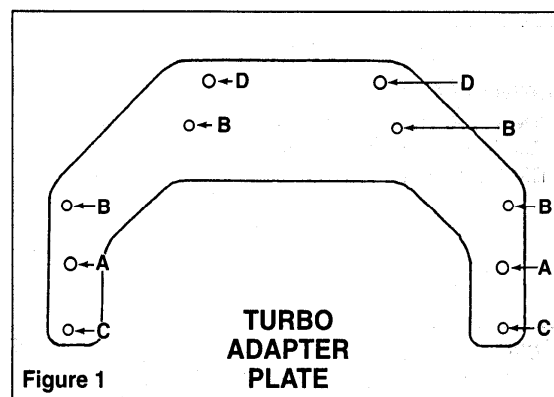

Figure 1
Step 1 Position the (E) adapter plate on the back of the engine with the attached nuts facing the engine. Align the "A" holes on the adapter plate over the engine dowel pins. (See **Figure 1** for location).
Step 2 In the boltholes marked "B" use the four (4) bolts supplied to secure the adapter to the engine. All engine bolts should be torqued to 35 foot pounds.
Step 3 Install converter and transmission using two (2) OEM bolts location "D" on the adapter plate. Use OEM bolts in location "C". All engine bolts are torque to 35 foot pounds.